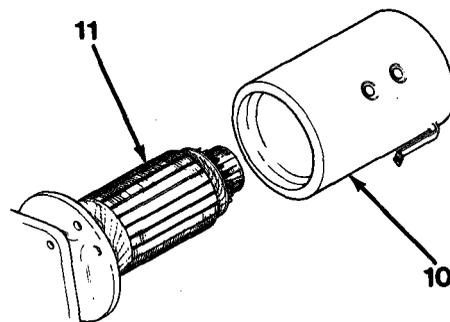

Figure 10-4
4. Remove housing (10) from armature (11, Figure 10-4).